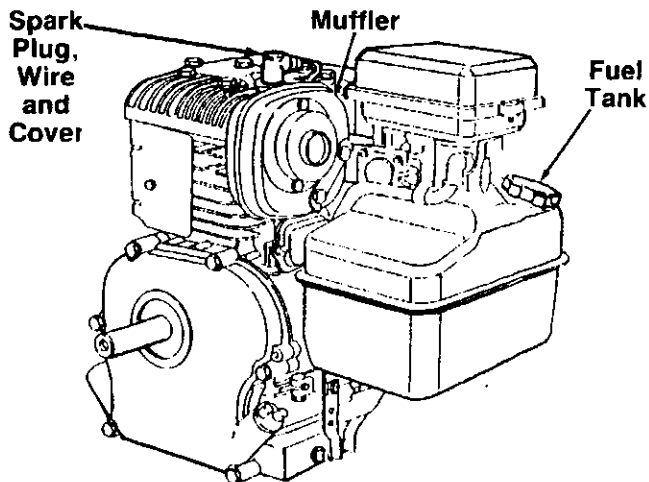

FIGURE 12.
2. Fill fuel tank. See figure 12. Use fresh, clean, unleaded automotive gasoline. Capacity is 3 quarts.
5. Attach spark plug wire and cover to spark plug. See figure 12.